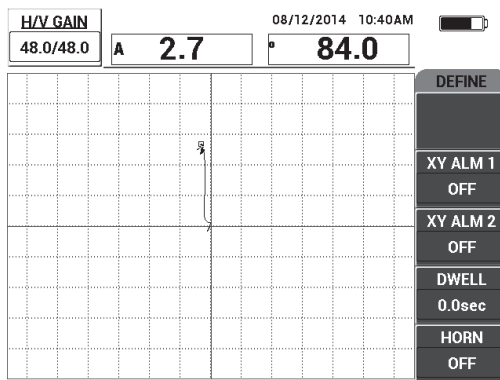

Figure 6-31 Adjusting the dot position
4. Lift the probe into the air to observe the dot's movement; if the dot disappears off the screen, press the GAIN key (**dB**), and then use the knob to adjust the dot position so that it remains on the screen (see Figure 6-31 on page 152).